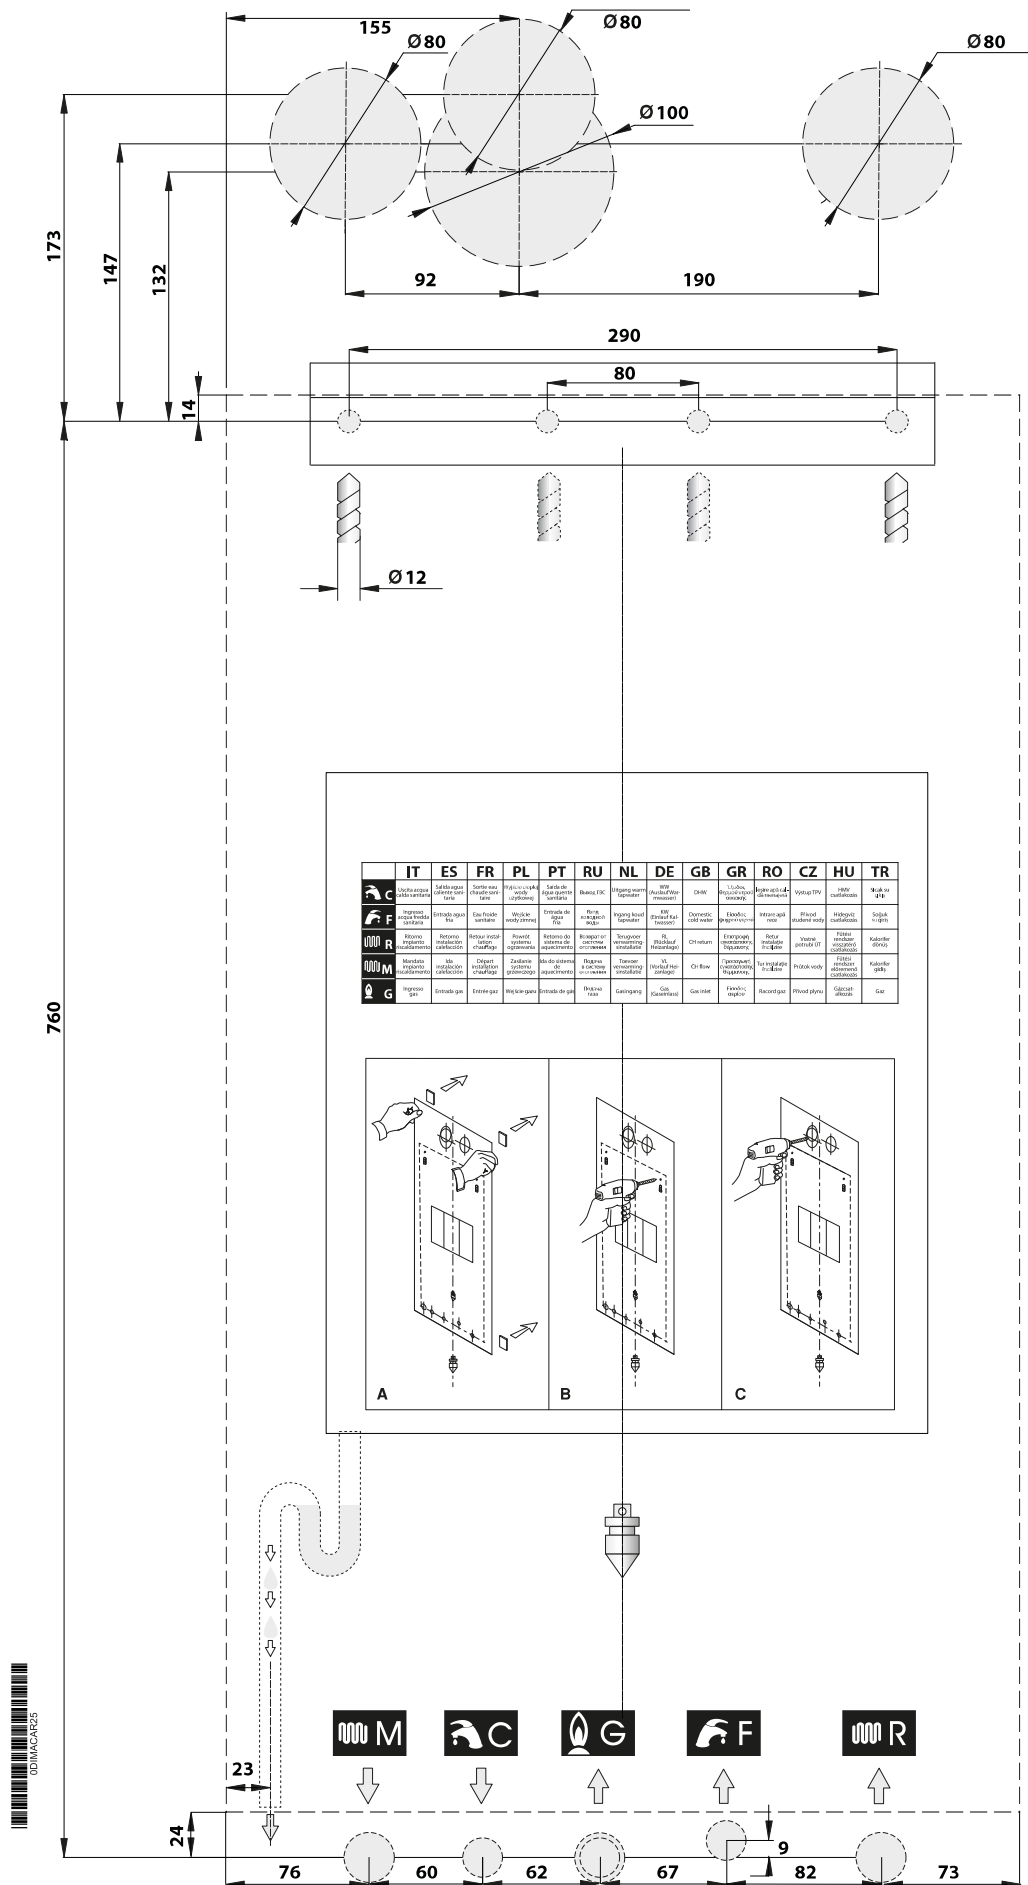

fig. 9
- b) the template for mounting boiler on a wall (fig. 9);
Each boiler is supplied with a paper template (fig. 9), found inside the packaging.
- secure the template (fig. 9) to the wall;